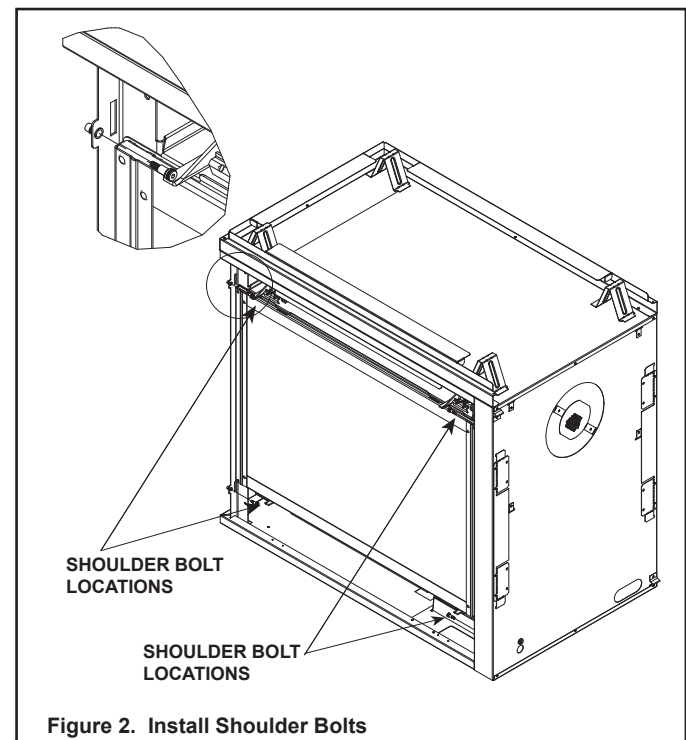

Figure 2. Install Shoulder Bolts
4. Install 4 shoulder bolts on each side of the appliance. See Figure 2. Shoulder bolts are supplied with the decorative front.